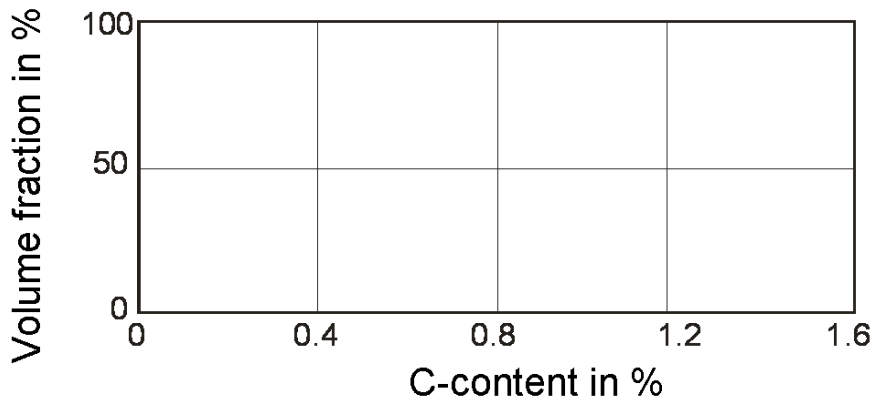

Figure 2
b) Sketch in Figure 2 the amount of retained austenite after quenching to room temperature in dependence of the C-content! (1,0 Points)